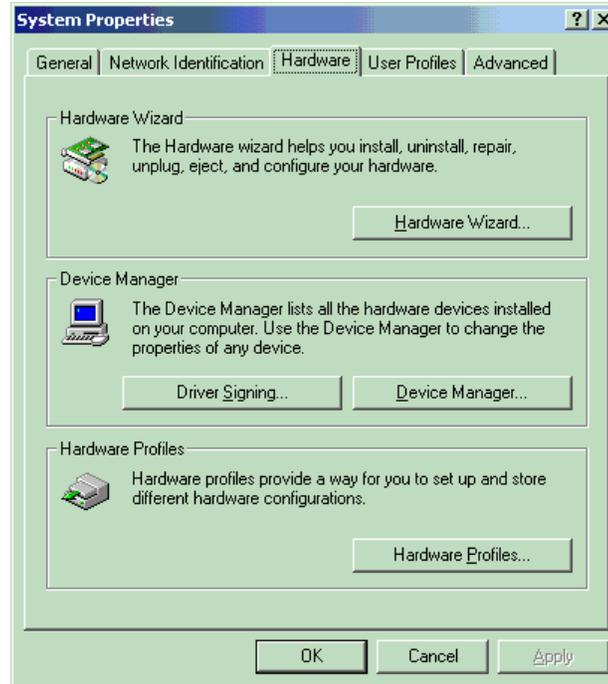

Figure 97. System Properties Window
1. Right-click the My Computer icon on your desktop, and select **Properties**. The System Properties window opens (Figure 97).